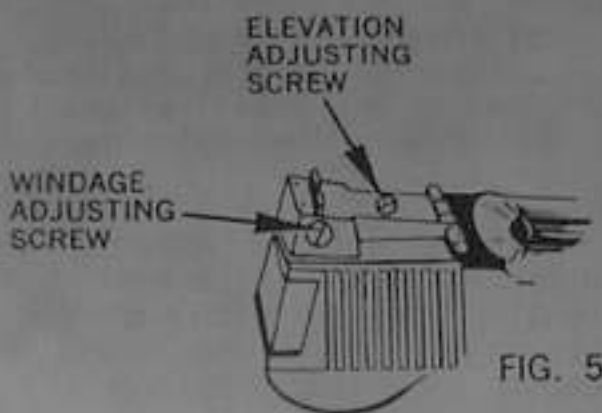

FIG. 5
5. Sight Adjustment — (Refer to Figure 5) To raise the rear sight, turn the elevation screw counter-clockwise. To lower the sight, turn the screw clockwise. Raising the rear sight raises the point of impact. Lowering the rear sight lowers the point of impact.